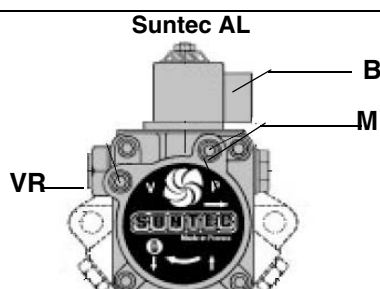

Fig. 13
- 2 remove the solenoid valve coil **B** on pump (Fig. 13) to avoid the light oil to get into the combustion chamber;
- 5 bleed the air from the **M** pressure gauge port of the pump, slightly loosening the cap and without removing it (Fig. 13);
- 8 reconnect the **B** coil on the pump (Fig. 13);